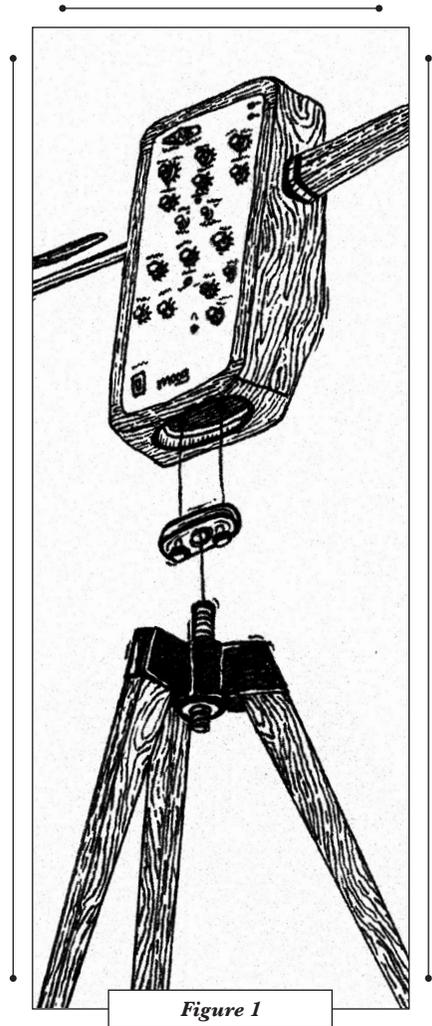

Figure 1
***Refer to Figure 1***
Refer to Figure 1